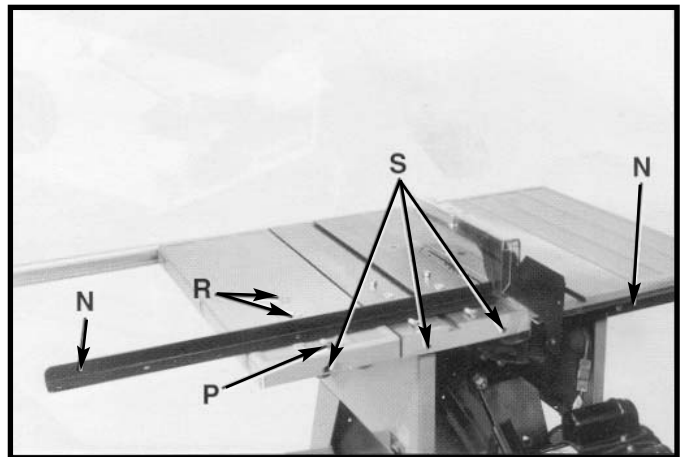
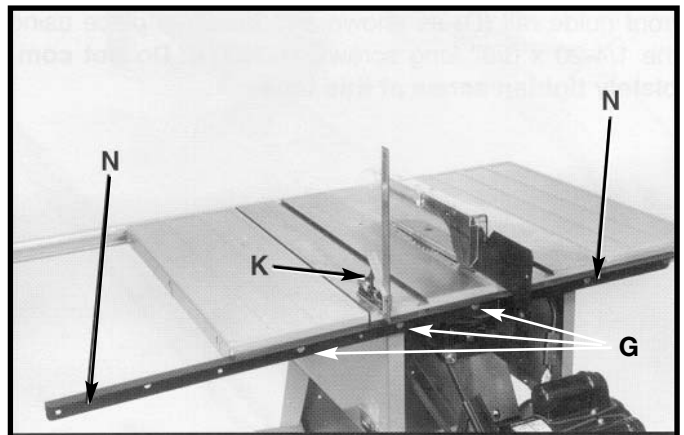

Fig. 47
Fig. 48
4. Slide the longer section of the front guide rail (D) Fig. 48 onto the carriage bolts from the other end until, the rails contact each other.
9. Align holes (S) Fig. 47 in saw table and extension wings with the six holes in the rear guide rails (N). **Fasten** rear guide rails to saw table and extension wings with six 3/8-16 x 1" hex head cap screws through holes, then add 3/8" flat washers, and 3/8" hex nuts, three of which are shown at (G) Fig. 48. The flat edge of rear guide rail must face upward. **NOTE:** Blade guard and splitter assembly has been positioned at the rear of the saw for this illustration.
10. **Using a square (K) Fig. 48, make certain the rear guide rail (N) is 19/32" below the surface of the saw and extension tables. Then tighten securely.**